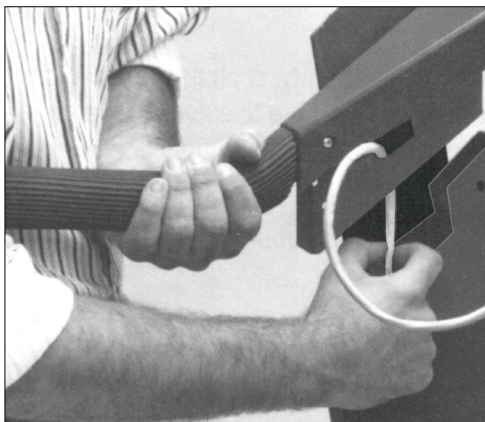
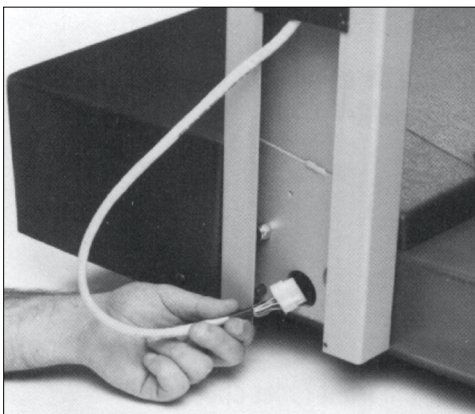

Fig. 2-2a: Threading the console control cable
Fig. 2-2b: The console control cable
6. Pick up the control panel console and gently lower it into position on top of the support bars. Place the two steel tabs (with the two threaded screw inserts) on the top of the support bars. Thread the wire cable and its connector through the left support bar (Figure 2-2a) and down to the base of the treadmill (Figure 2-2b), being careful not to pinch the cable between the console and the bar.